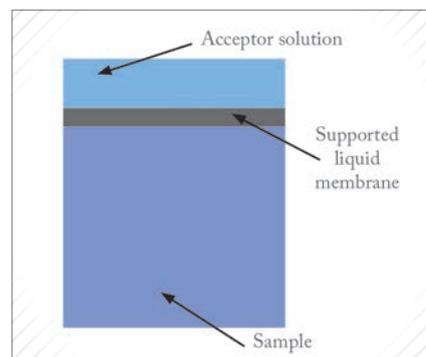

Figure 4. Equipment and principle for PALME.
We first published our work on PALME in 2013 (5), and filed a patent application in collaboration with the University of Oslo's Technology Transfer Office. The principle of PALME is illustrated in Figure 4. The equipment comprises a 96-well sample plate and a 96-well filter plate. In the bottom of each well in the filter plate, there is a